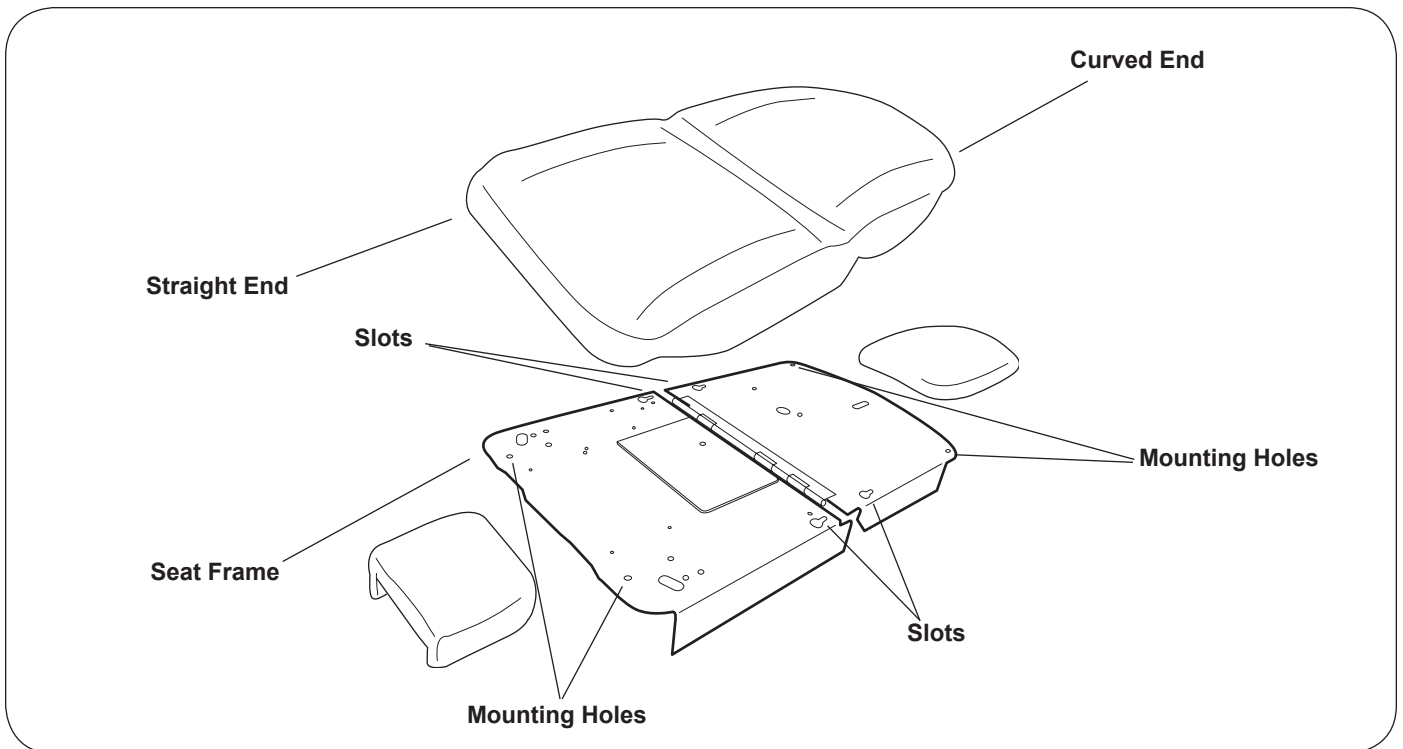

Figure 8.
2. Place the seat/back cushion on the table with the curved end toward the headrest and the straight end facing the legrest (Figure 8). Adjust the cushion so that the straight end overhangs the seat frame by approximately 4".